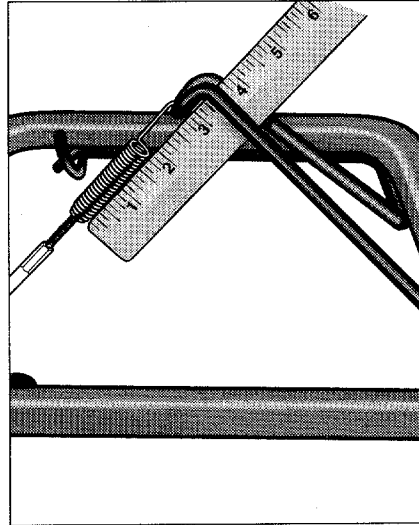

Figure 5-14: Measure the length of the Clutch Bail Spring to check for correct belt tension (1-7/8").
2. Measure the length of the clutch bail spring with a ruler. Refer to Figure 5-14.